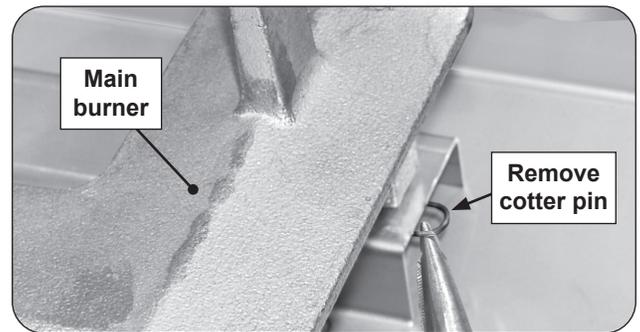

Fig. 35-2 Remove cotter pin
2. Locate and remove the cotter pin from the left or right rear burner anchoring peg by pulling it straight out of the cotter pin hole using fingers or needle-nose pliers. See Fig. 35-2.